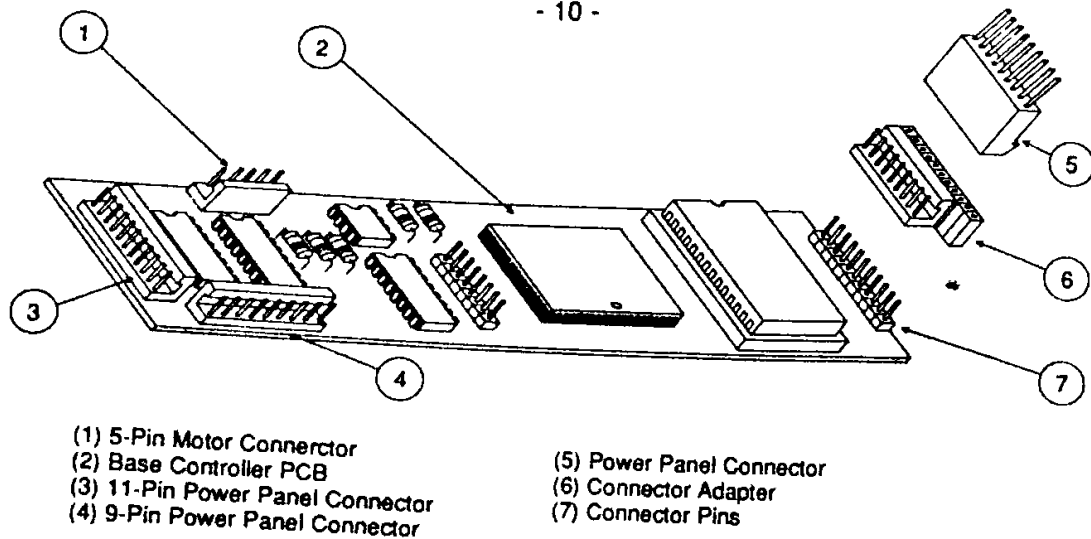

Fig. 4: LX6 Drive Electronics
The next step in the addition of the LX6-CAT, is connecting a cable inside the telescope drive base. Refer to Fig. 4 for the following instructions:
1. Remove the four phillips-head screws that hold the Power Panel in place. Carefully move the Power Panel aside, revealing the Base Controller PCB. You will notice a loose cable coming from the back side of the Power Panel. This cable will plug into the Base Controller PCB (#2, Fig. 4).
2. Using the special connector adapter (# 6, Fig. 4), plug the loose 9-pin cable (#5, Fig. 4) onto the Base Controller PCB Connector Pins. Be careful to get the connector adapter in the correct orientation.